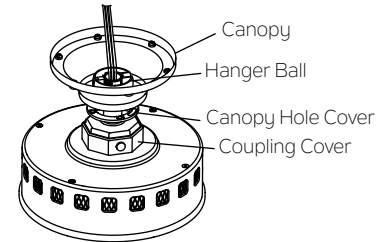

Fig. 8
Step 4. Slip the coupling cover, canopy hole cover and canopy onto the downrod. Carefully reinstall the hanger ball onto the downrod. Make sure the cross pin is in the correct position and screws are tight and the wires are not twisted. (Fig. 8)